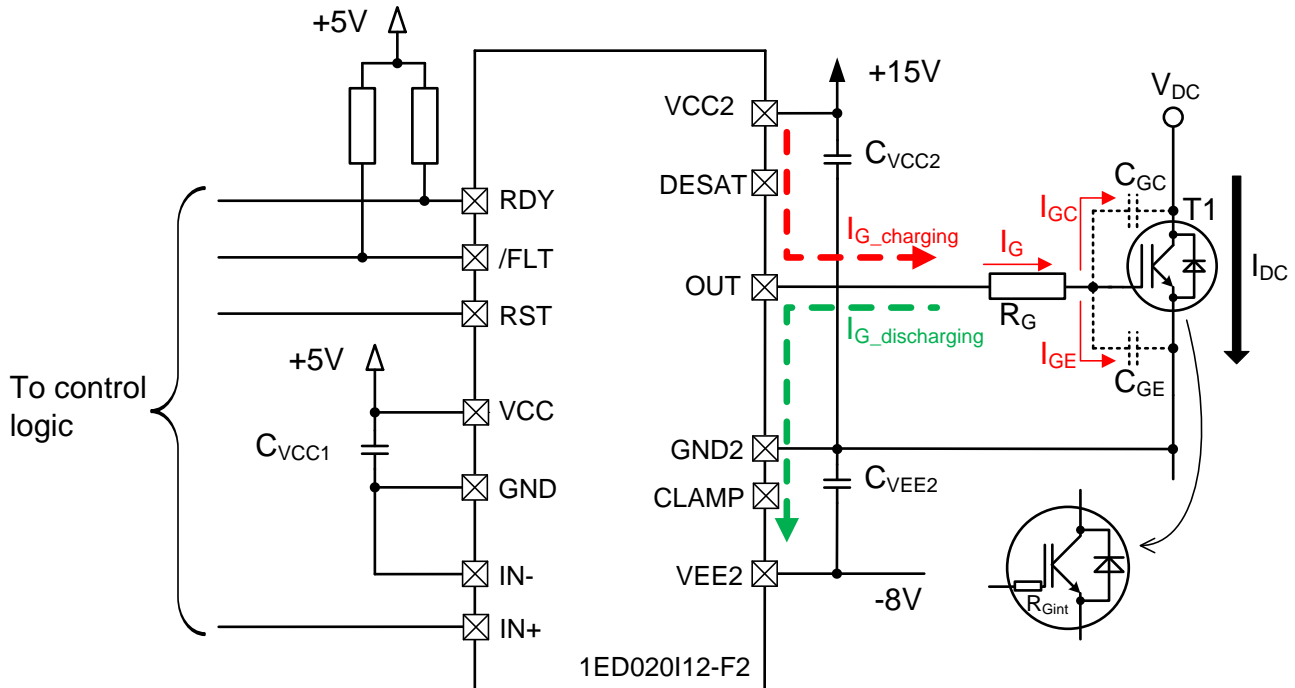

Figure 1 Basic gate driver circuit
- The gate resistor is located between the output of the driver and the input of the power device. It is commonly labelled R_G as depicted in Figure 1.